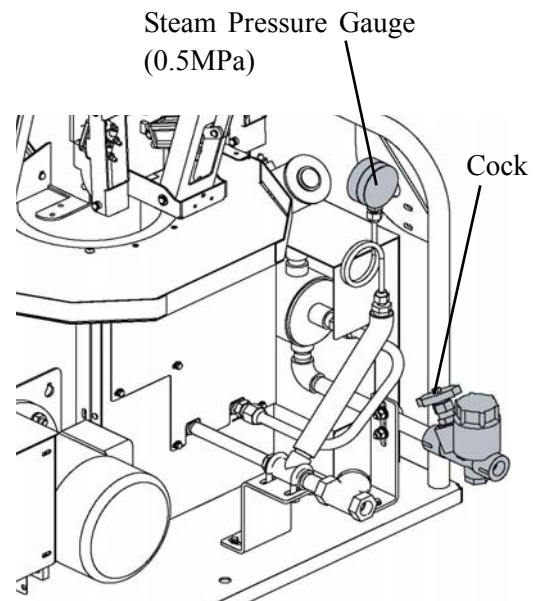

Figure-3
3. Steam Pressure: Figure-3
4. Steam trap check: Figure-3